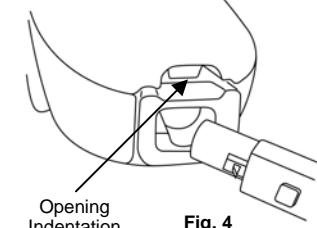

Fig. 4
- Remove the flexible hose from the air intake duct by pressing on the hose release button and pulling out. Place your fingers in the opening indentation and lift the front cover up. (Fig. 4)